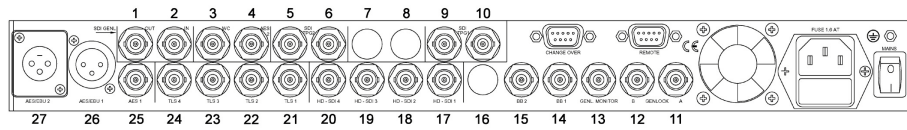

Figure 7: Rear Panel, Configuration
*The table 6 and figure 7 show the possible combinations of Video Generators which can be installed*
**Note:** Not all of the above options can be installed at a time; maximum 2 HD-SD SDI boards and/or up to 3 TRI-LEVEL-SYNC and/or up to 4 TSG's and/or up to 3 TPG's can be mounted at a time. For the possible combinations, refer to figure 7. If one or more of the options is not installed, the keyword will be missing in the menu.